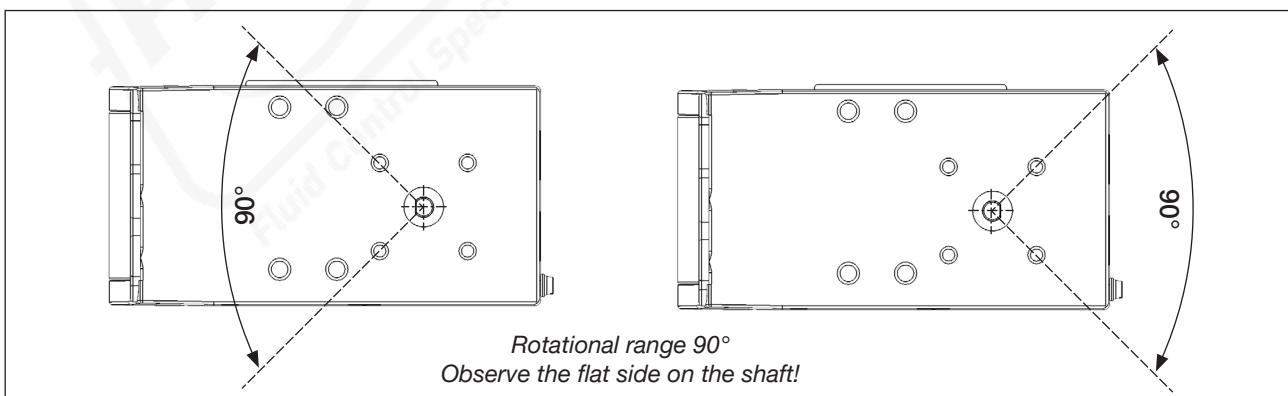

Figure 22: Rotational range
- Align the flat side of the shaft to the rotational range (see “Figure 22”).